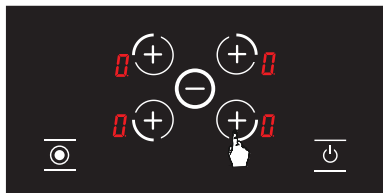

Figure 6
2. Press the relevant hob selection key. The symbol shall be displayed in the relevant hob when you touch for the first time. (see Fig. 6) Moreover, the relevant hob selection key functions as the key after the first touch.